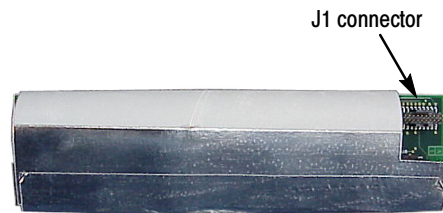

Figure 9: SDI Interface board and shield
5. Slide the SDI Interface board into the shield so the J1 connector on the SDI board is exposed through the cut-out area of the shield (see Figure 9).